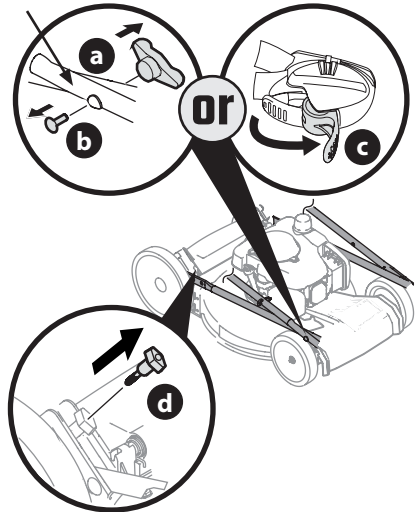

Figure 6
1. Remove knobs or wing nuts (a) and carriage bolts (b) from the handle or if equipped with the EZ-lock handle (c), proceed to STEP 2 (Figure 6).
2. Remove the T-bolts (d) from the handle brackets (Figure 6).